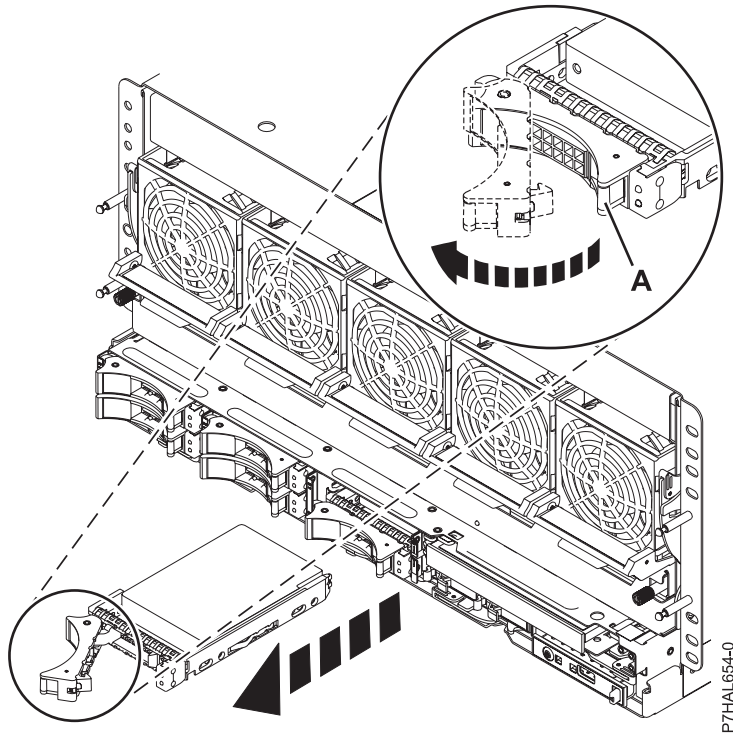

Figure 20. Removing a disk drive from the system
1. Unlock the drive handle by squeezing it and pulling it out toward you, as shown in Figure 20 on page 36. If the handle is not all the way out, the disk drive or solid-state drive cannot slide out of the system or out of the expansion unit.